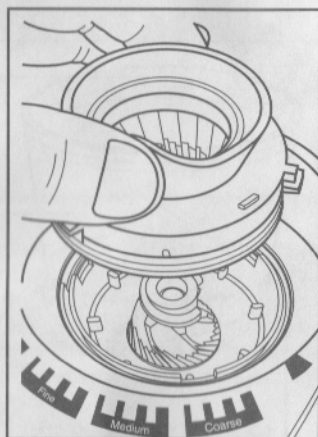

Fig. 5
3. Lift the upper burr (Fig. 5) and check if the grinding chamber is free of any foreign objects (Fig. 6).